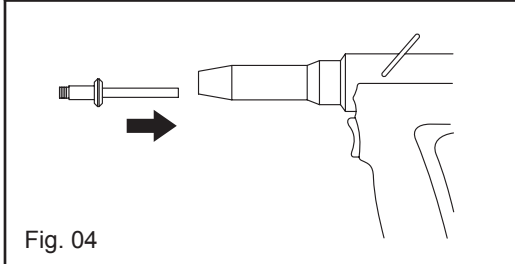

Fig. 04
4. Insert the blind rivet into the rivet seat, as shown in Fig. 04.